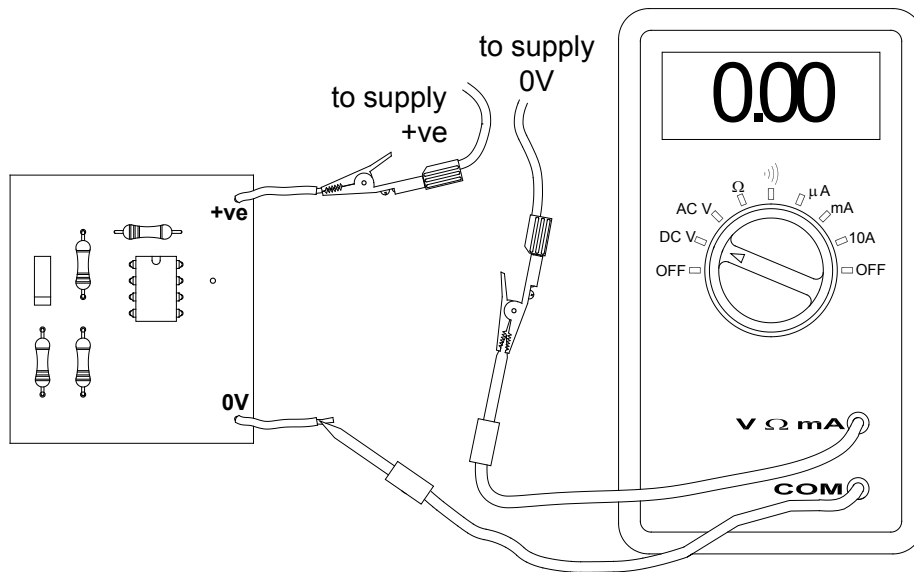

Fig. 12
- 6 (a) Fig. 12 shows a multimeter being set up to measure current flow in a circuit.